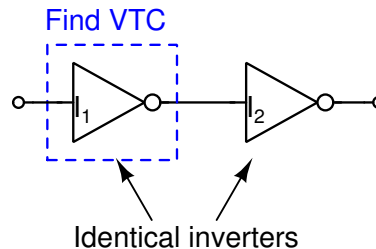

Figure 1
- (a) Using NGSPICE, plot VTC of inverter-1 (I_1) for the case when the inverter is driving a same sized inverter (I_2) as shown in Fig. 1.